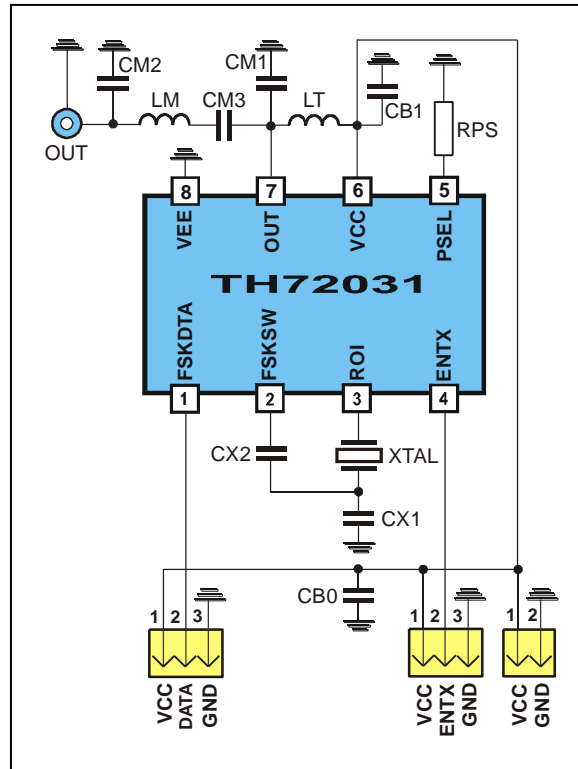

Fig.18: Test circuit for FSK with 50 Ω matching network
- Data according to test circuit in Fig. 18 (868.3MHz)
6.1. Test circuit component list to Fig. 18